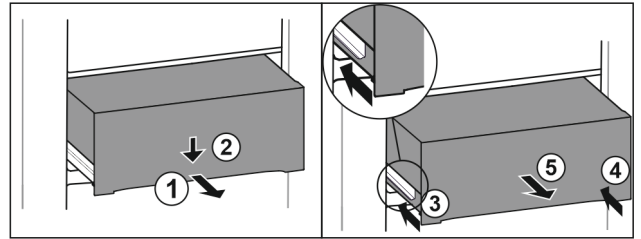

Fig. 176
- ▶ Pull out drawer half-way. Fig. 176 (1)
- ▶ Push the drawer down at the front. Fig. 176 (2)
- ▶ Push the left rail in by about 2 cm. Fig. 176 (3)
- ▶ Push the right rail in by about 2 cm. Fig. 176 (4)
- ▶ Remove drawer to the front. Fig. 176 (5)